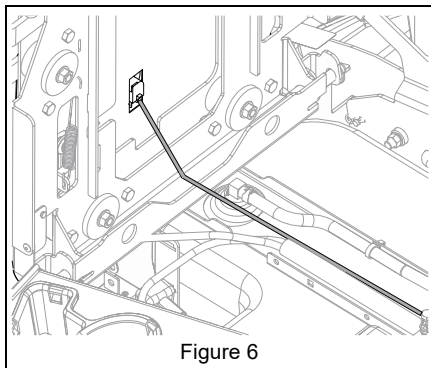

Figure 6
8. Connect operator presence cable. See Figure 6.